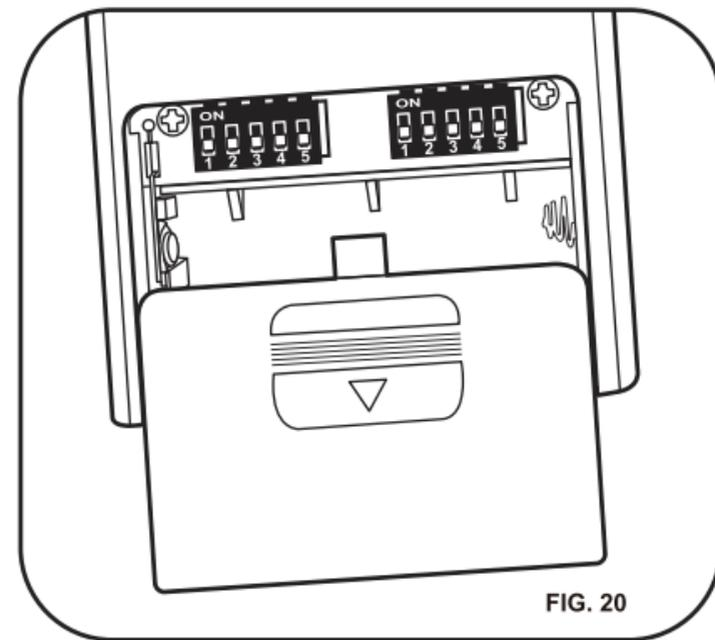

FIG. 20
1. Select desired frequency from the back of transmitter. (Figure 20)